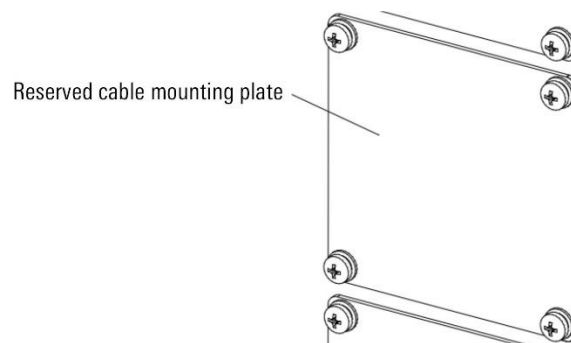
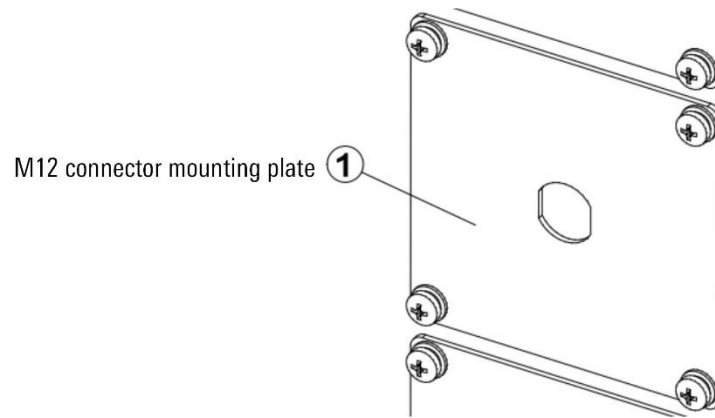

Figure 12-3 Reserved cable installation plate
Figure 12-4 M12 connector mounting plate
Step1. Remove the original reserved cable mounting plate (refer to Figure 12-3) with a cross screwdriver and install the M12 connector mounting plate (refer to Figure 12-4) on the cabinet.